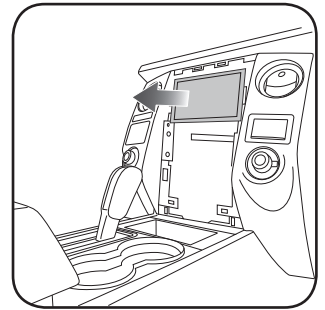

Fig. 1.6
4. Remove and unplug the screen. (Fig. 1.6)